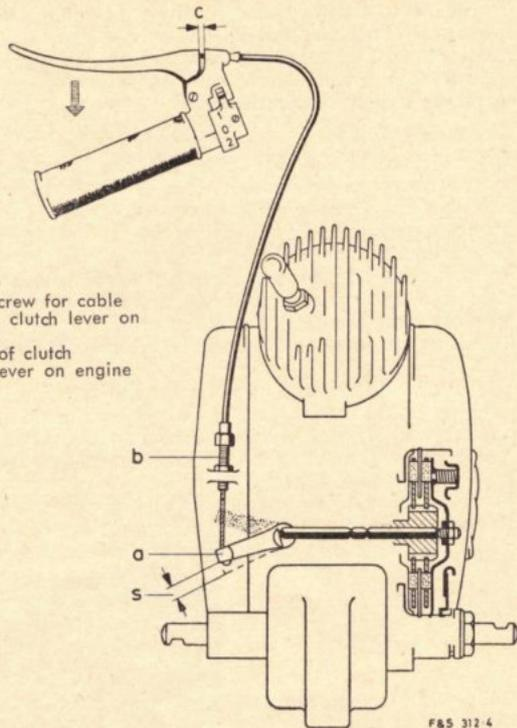
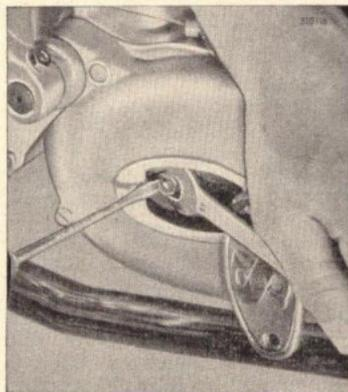

Fig. 12
Fig. 13
The clutch of the SACHS 50 engine has to transmit the whole of the power developed by the engine; yet when stopping or changing gear, it must completely disconnect the engine from the gearbox. In addition, it must compensate considerable differences in rotation speeds when moving off from the stationary position. The clutch will always reliably perform this task if it is correctly adjusted and if the slight amount of normal wear that occurs is allowed for in due time. The following adjustment ensures proper functioning of the clutch (Fig. 12):
2. While the engine is cold, adjust the screw **b** on the clutch control cable until a backlash, or play, of 1—3 mm (0.04 bis 0.12 in.) at the clutch lever on the handlebars (Fig. 12).
4. If the cable adjusting screw has been screwed right home, or if the clutch actuating lever on the engine does not display 10 mm (0.4 in) free travel, then the "S" cover on the right-hand side of the engine housing should be opened. The internal clutch adjusting screw with its lock nut is now accessible. Slacken the lock nut and unscrew the adjusting screw until the requisite amount of free travel for the clutch actuating lever, as mentioned in point 1 (above), has been restored (Fig. 13). Then refit the clutch control cable and adjust the backlash **c** (Fig. 12) at the handlebar lever to a value of 1—3 mm (0.04 bis 0.12 in.).